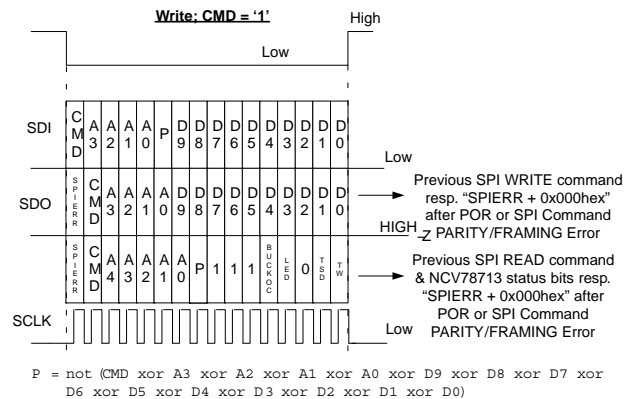

Figure 21. SPI Write Frame
- If the previous command was a read, the response frame summarizes the address used and an overall diagnostic check (copy of the main detected errors, see Figures 21 and 22 for details),